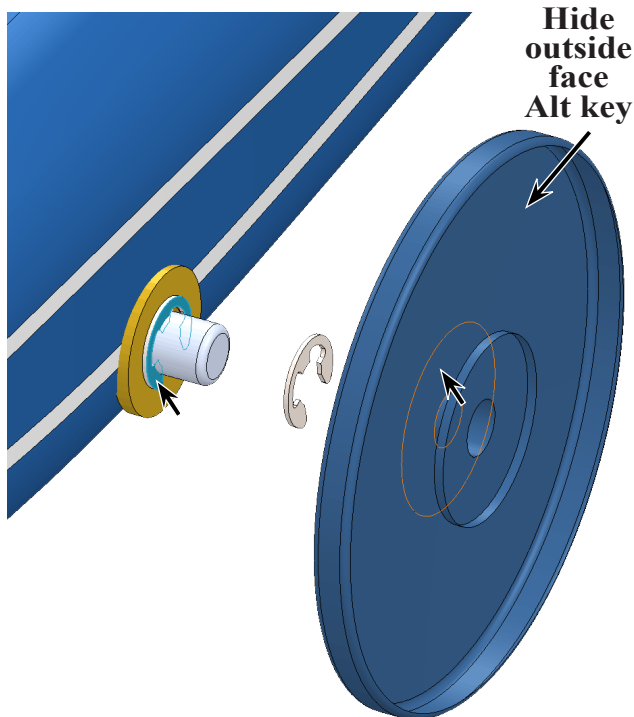

Fig. 21
Step 1. Click **outside face of E-Clip<1>** and **hide outside face of Wheel**, click **inside face of Wheel**. To hide face, hover cursor over face and press **Alt key**, Fig. 21.